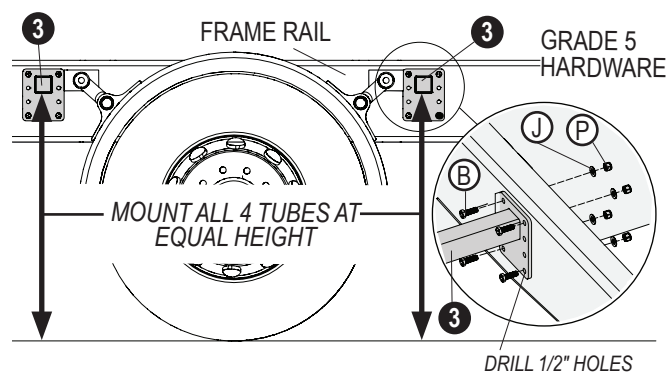

FIG. 145
- Ensure that all **offset tube (3)** heights match. If necessary, use shims to ensure level mounting, see Figure 145.
- Secure each **offset tube (3)** to the frame rails using Grade 5 hardware. For each plate, attach four **bolts (B)** and secure with **washers (J)** and **lock nuts (P)**.